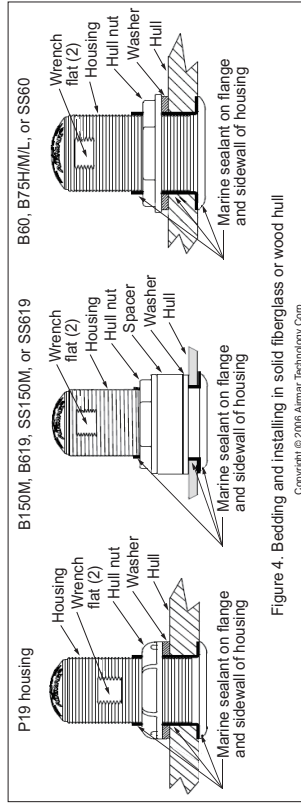

Figure 4. Bedding and installing in solid fiberglass or wood hull
Apply a 2 mm (1/16") thick layer of marine sealant around the flange of the housing that contacts the hull and the sidewall of the housing (see Figure 4 or 5). The sealant must extend 6 mm (1/4") higher than the combined thickness of the hull, washer(s), hull nut, and any spacer. This will ensure there is marine sealant in the threads to seal the hull and to hold the hull nut securely in place.
- Slide the washer onto the housing (see Figure 4 or 5).